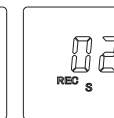

Fig.4
(2). To set the data sampling time interval. Press **MODE** again, the sign "REC" and "S" would both flickering(Fig.4).